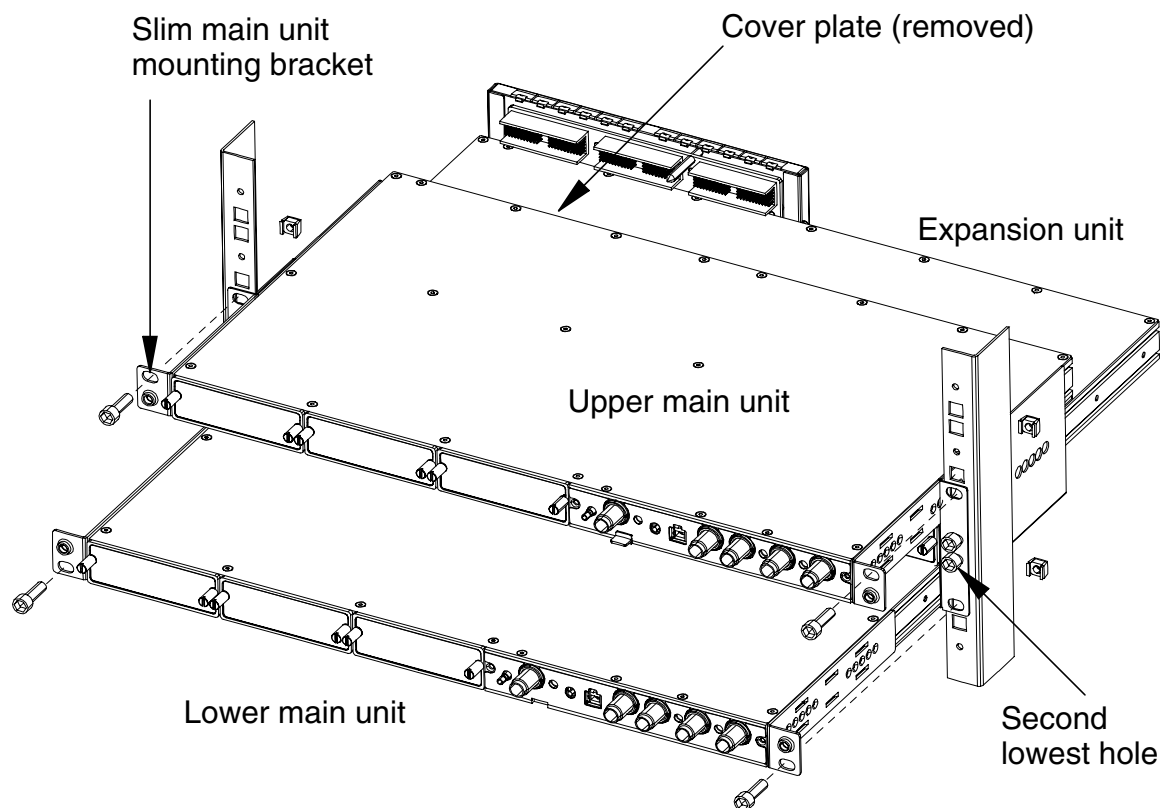
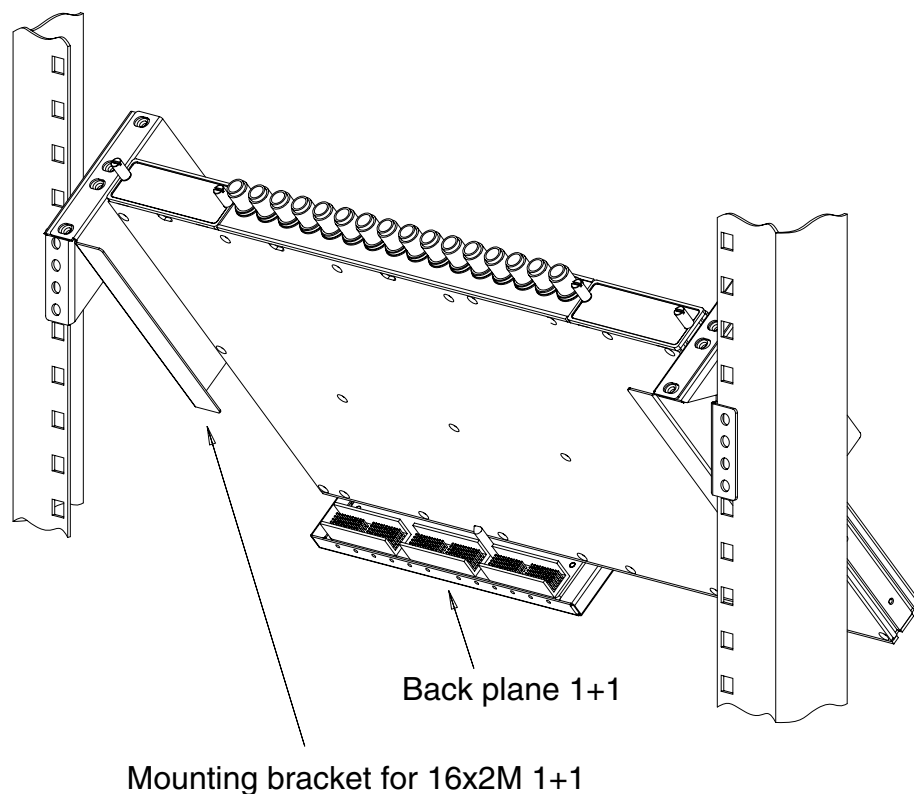

Figure 6. Installing FIU 19 16 x 2M 1+1 in a 19-inch rack, phases 3 – 6
Figure 10. Installing FIU 19 16 x 2M 1+1 in an ETSI rack
3. (When applicable) Replace the normal 1U mounting brackets of the main units with slim brackets. Use the same Torx screws that were used with the 1U brackets. The brackets should be as shown in Figure 6, free hole up (upper unit) or down (lower unit).
To install FIU 19 (E) with 16 x 2M capacity and 1+1 protection in an ETSI rack, follow the instructions in Section 4.1.3. Ignore the use of rack mounting nuts. They are not needed in this installation. Put the expansion unit to the rack as shown in Figure 10 and the main units above and below the expansion unit (see Figure 6).
4.3 Installing FIU 19 (E) in a slim rack